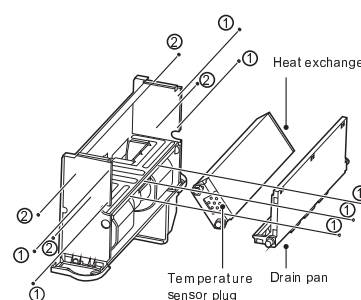

Figure 4-8 Removal of drain pan and heat exchanger
- As shown in Figure 4-8, remove screws ①\*7 to take the drain pan out. Then, remove screws ②\*4 to take the heat exchanger out.